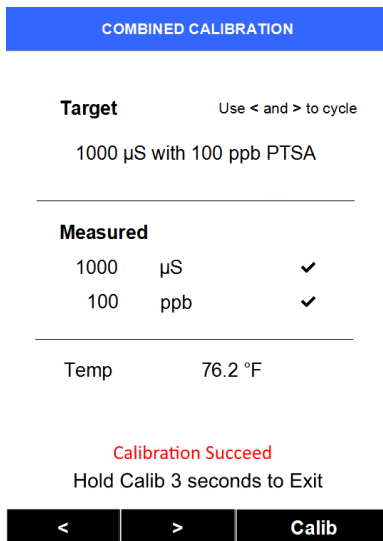

Figure 24
- 12) After a second, if the PTSA calibration is successful, the PTSA value will also be displayed in the Measured section below the conductivity value, and a checkmark will appear. A small variance is acceptable. The message “Calibration Succeed” will appear in red, as in Figure 24.